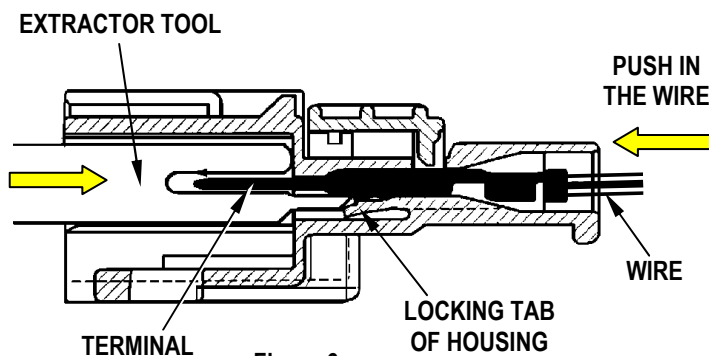

Figure 6
2. When the TPA™ is slid open, push the wire of the crimped terminal forward in the arrow direction shown before using the Extractor Tool. See Figure 6.
5. Position the extractor tool under the housing lock as shown in Figure 6.